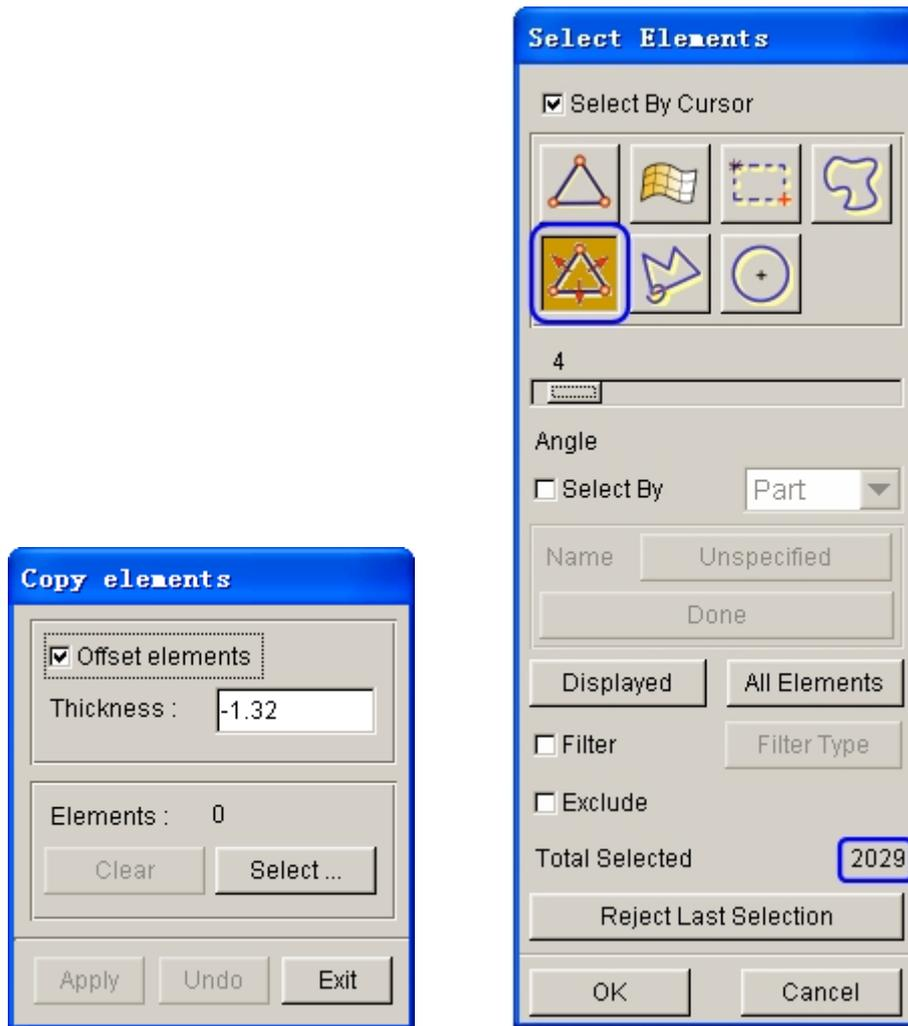

Figure 5.54 Select binder element
23. Click **Copy Elem...** button, following by clicking **Select...** button in COPY ELEMENTS dialog box illustrated in Figure 5.54.
24. From the SELECT ELEMENTS dialog box, click Spread icon illustrated in Figure 5.54. Then, use your mouse cursor to move the slider to set spread angle as **4°**.